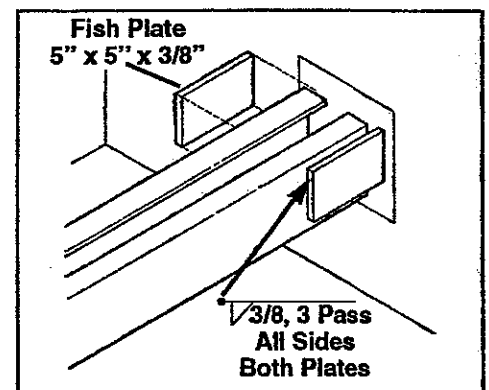

Fig. 22. Fish Plate Size and Location
18. Weld fish plates to the center channels of the unit and to the plate imbedded in the rear pit wall. Refer to Figure 22 for recommended fish plate sizes and location.